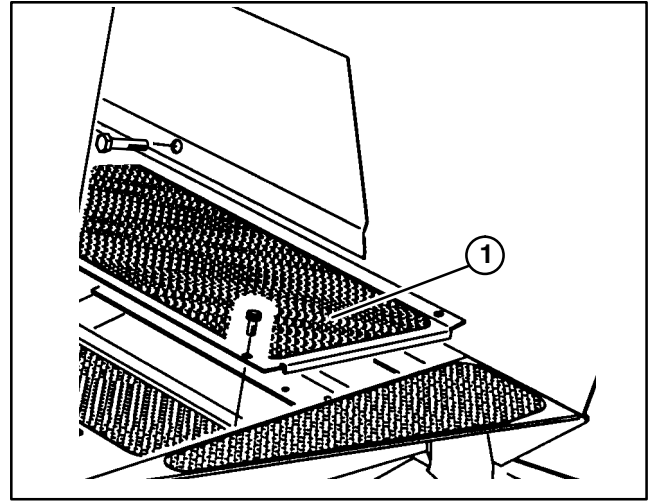

Figure 6
REPLACE FLOOR PANEL FASTENER (Fig. 6)
(Fig. 6)
1. Remove fastener securing left front corner of floor panel to frame (Fig. 6).
2. Replace with 5/16–18 x 5/8" lg. flange head capscrew supplied in loose parts (Fig. 6).